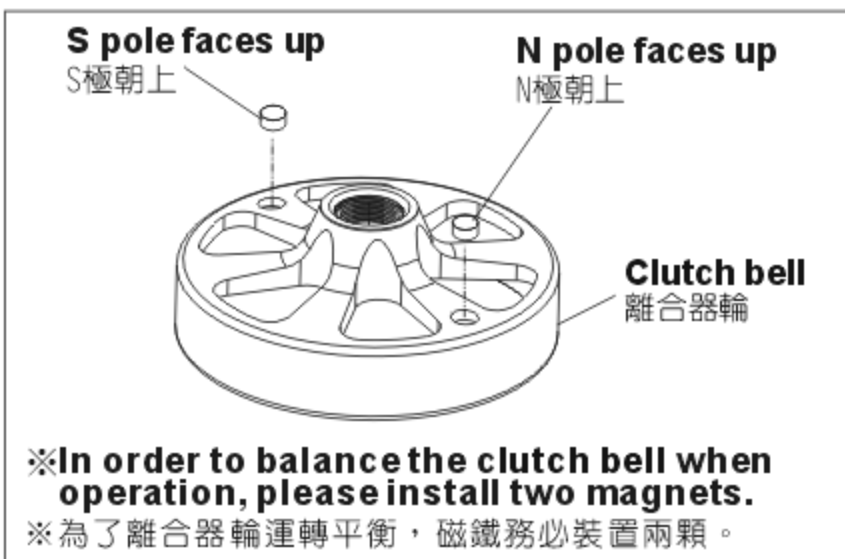

Fig.1
- See Fig. 1, first install two magnets on the mounting hole of the Clutch bell with CA glue or R48 glue, the north pole of one magnet (mark N) faces up and the north pole of the other magnet faces down.